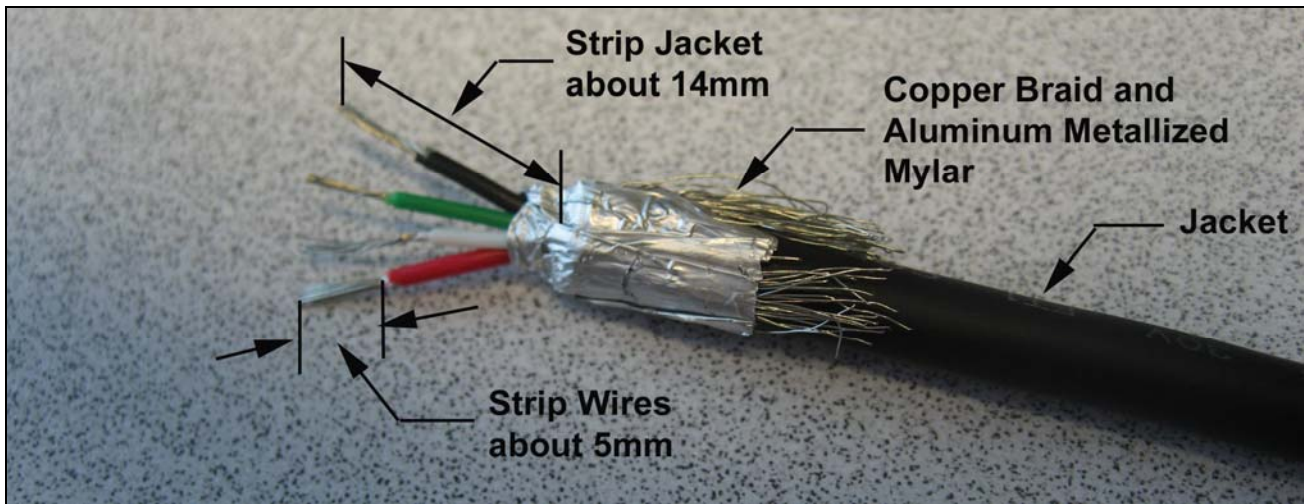

Figure 3-3: USB Cable Preparation
Step 1: Strip the jacket and wires of the USB cable according to the Figure 3-3.